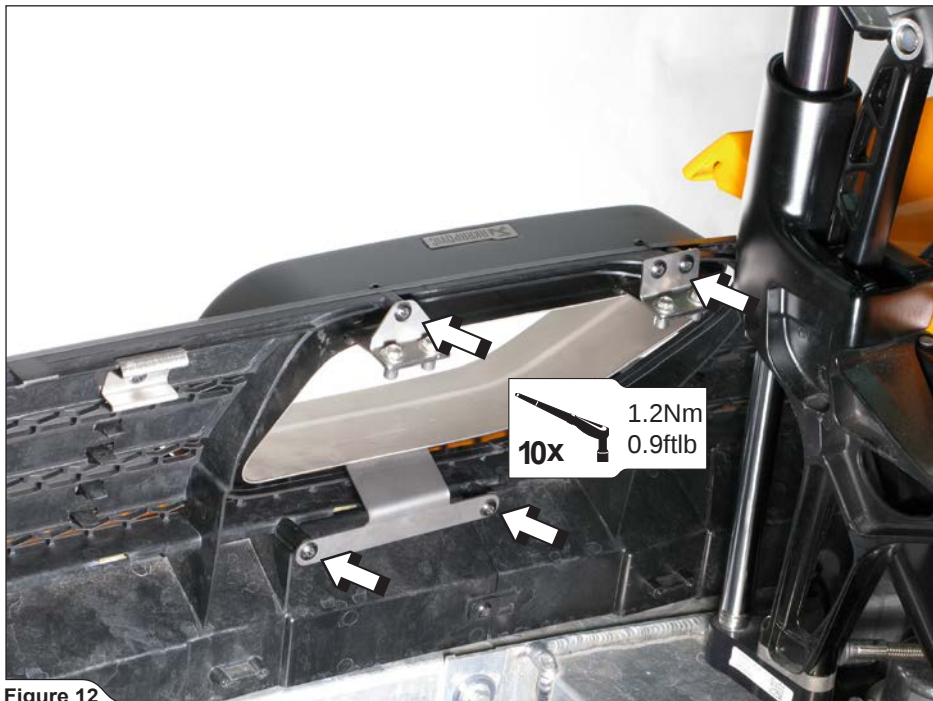

Figure 12
2. Adjust and center both tail pipes in respect to the trim panel and rear bumper and screw the tail pipes onto the trim panel, using stock bolts (**Figure 12**).